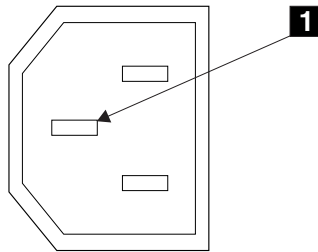

Figure 2. Ground pin
6. Check for continuity between the frame of the SAN Volume Controller 2145-8F4 and the ground pin of each main power connector. The ground pin is shown as **1** in Figure 2.